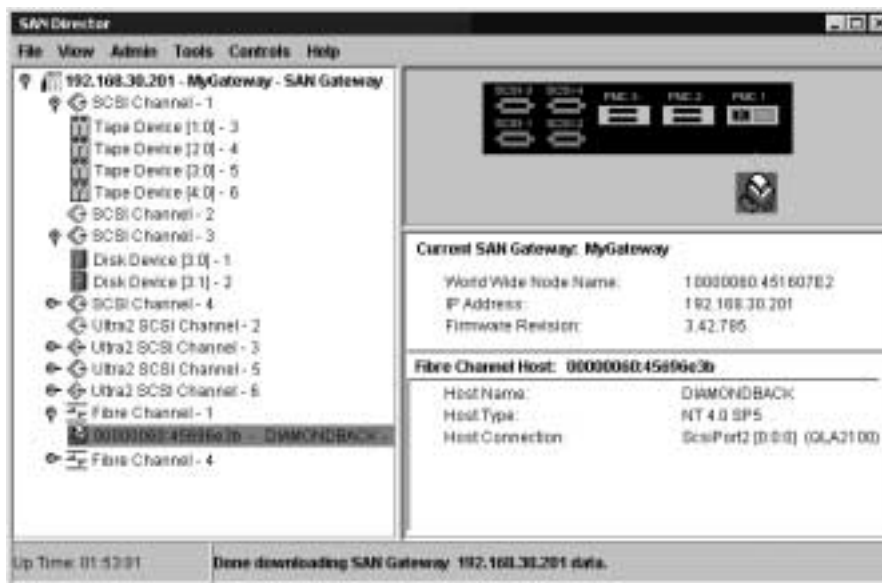
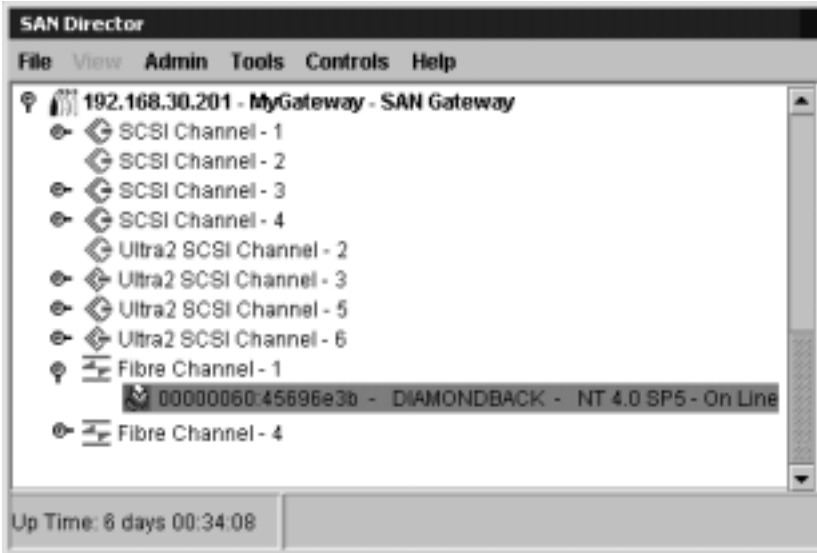

Figure 6-1: One Registered Host Online
Figure 6-2: Detail of Host Information in Tree View Panel
9. After the ADIC Gateway has been refreshed, expand the tree to show tree elements. Expand the tree for the Fibre Channel that the host is connected to and verify that the registered host is displayed. Figure 6-1 is an example that shows how a registered host that has the Host Registration Service running is displayed.
In the Tree View panel of Figure 6-1, you can see that the host is connected to ADIC Gateway Fibre Channel port 1. In the text string after the host icon in Tree View, you can read the WWN of the HBA and the beginning of the network name of the computer. You can use the scroll bar to expand your view of this panel (see Figure 6-2) or you can read the host type, operating system, patch level, and other host connection information (SCSI map from the host point of view) in the Data panel. These parameters were provided automatically from the Host Registration Service.